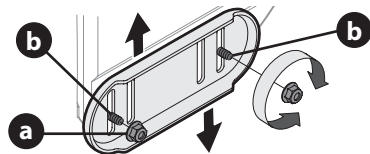

Figure 47
1. Loosen four hex nuts (a) (two on each side) and carriage bolts (b). Move skid shoes to desired position (Figure 47).
NOTE: The skid shoes on your snow blower may look slightly different (and have different hardware) than ones shown in Figure 47.